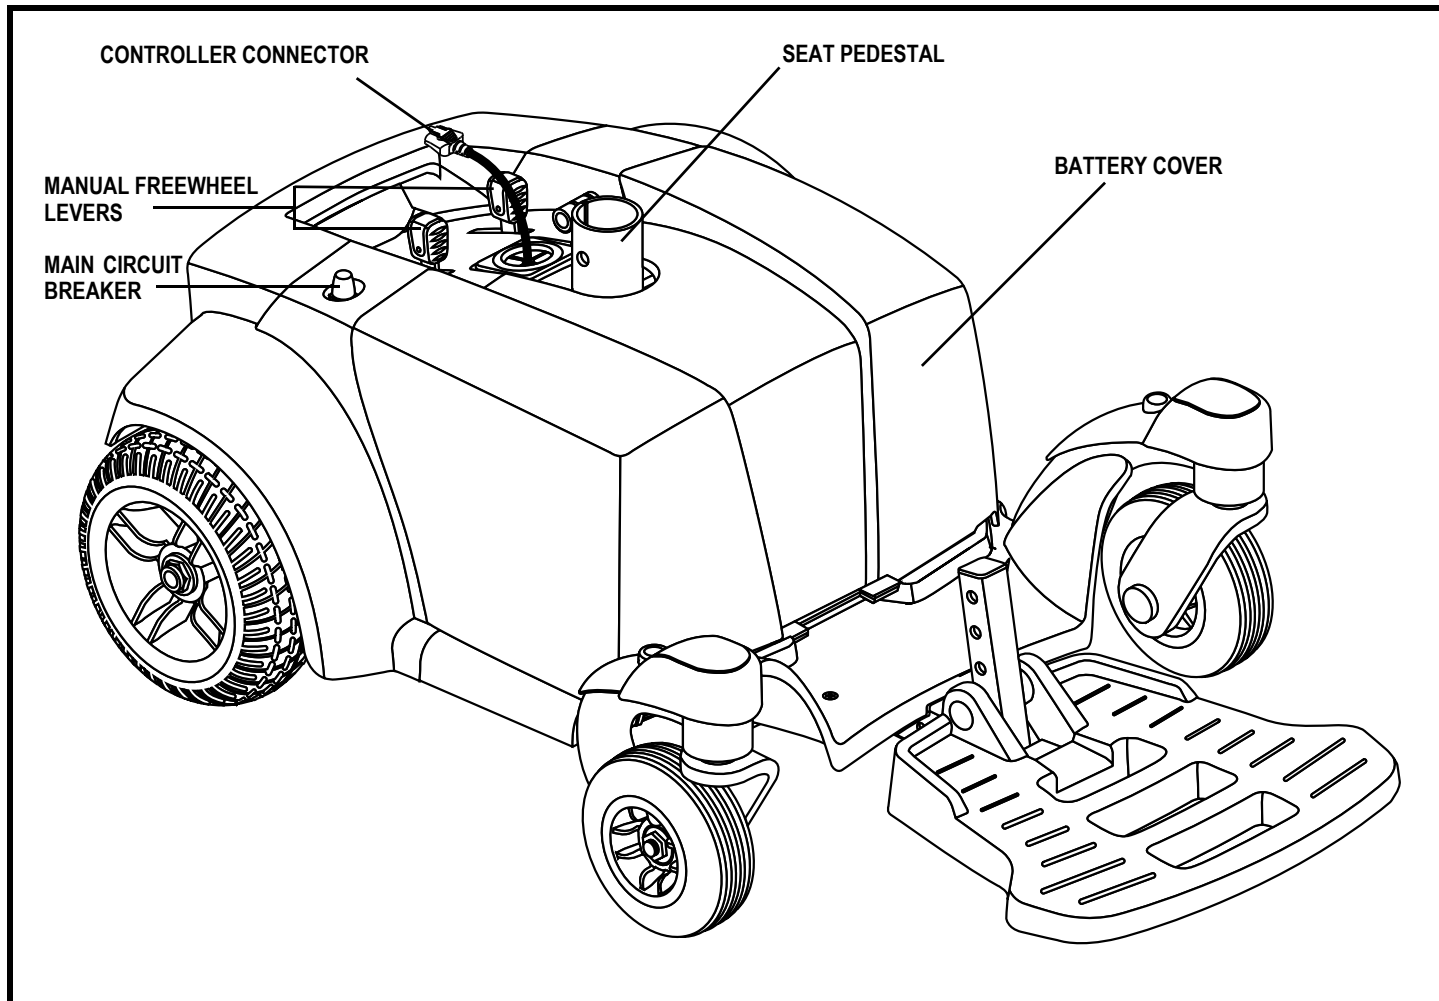

Figure 6. The Select Traveller Power Base
The electrical components are located on the power base. The main circuit breaker is located toward the rear of the power base. The controller connector is located on the rear of the power base. **See figure 6.**
5. Plug the controller harness into the connector on the power base. See figures 6 and 9.